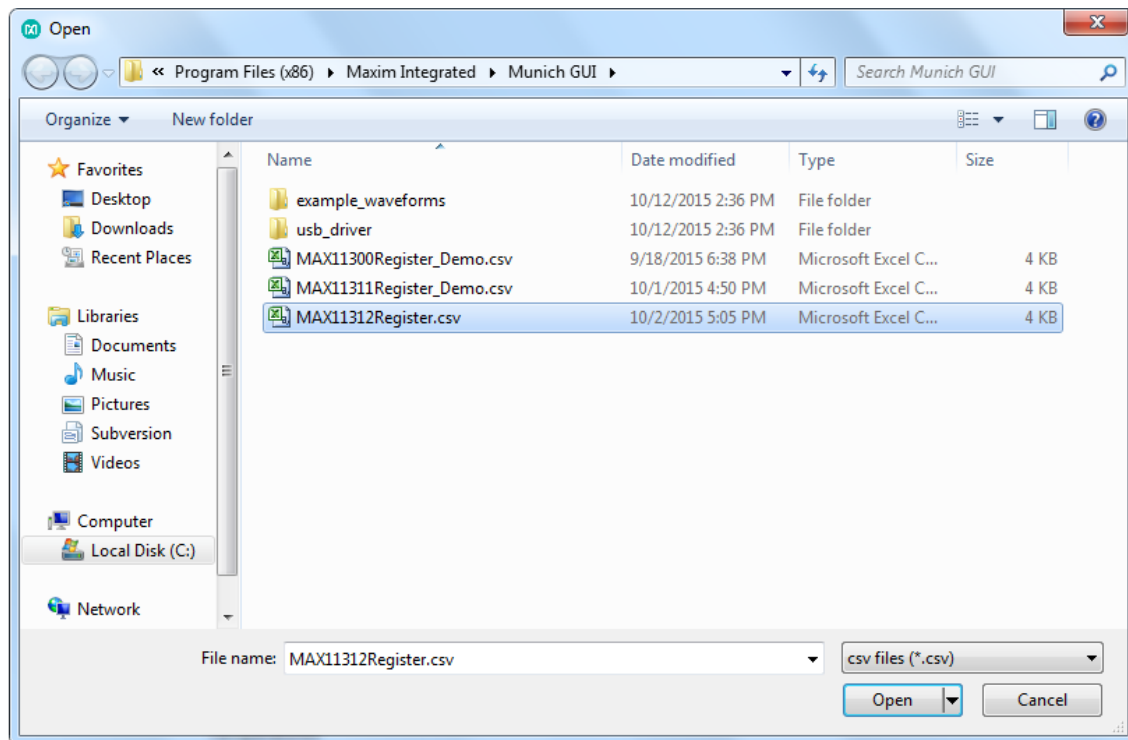

Figure 18. Register files.
4. Under Configuration, click on **Read from File** and select the register file **MAX11312Register_Demo.csv** as shown in **Figure 18**.